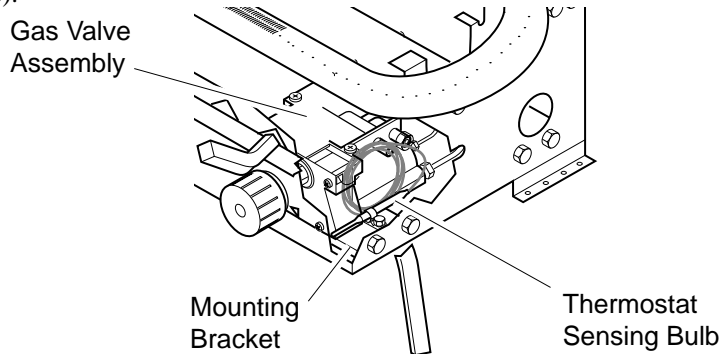

Figure 26 - Location of Gas Valve Assembly and Thermostat Sensing Bulb
1. Remove logs. Locate the gas valve assembly and thermostat sensing bulb (see Figure 26).